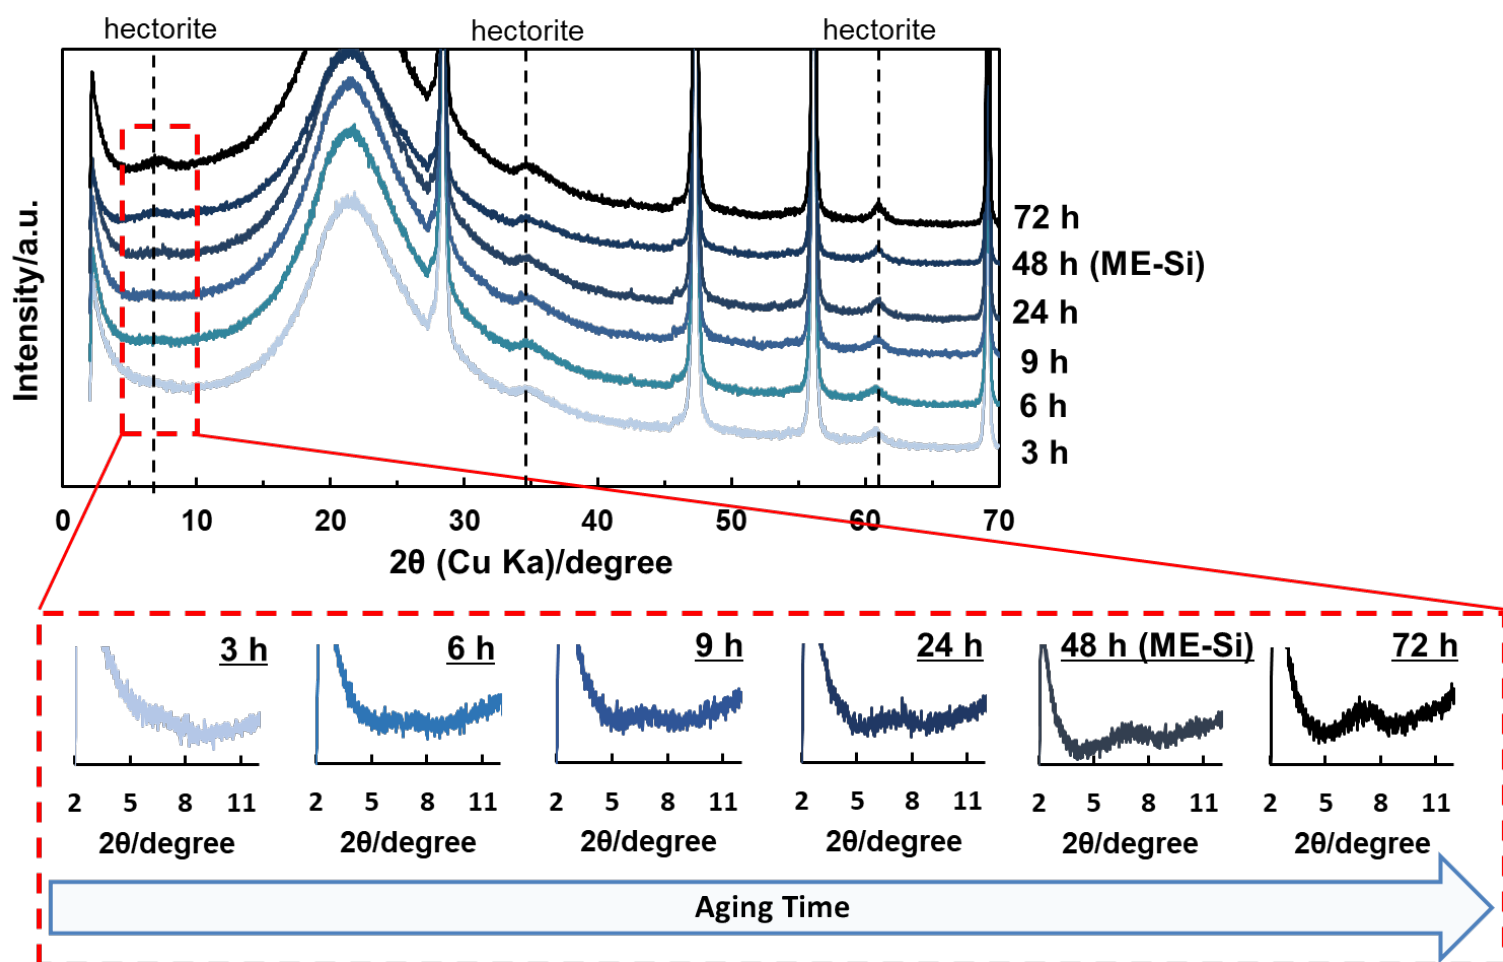

Fig. S5. XRD patterns of the product obtained via reactions at 3, 6, 9, 24, 48, and 72 h.
- XRD patterns of the products obtained at different aging times (3, 6, 9, 24, 48, and 72 h: Fig. S5), and different concentrations of MgCl₂ and LiF in the starting mixtures (Fig. S6)